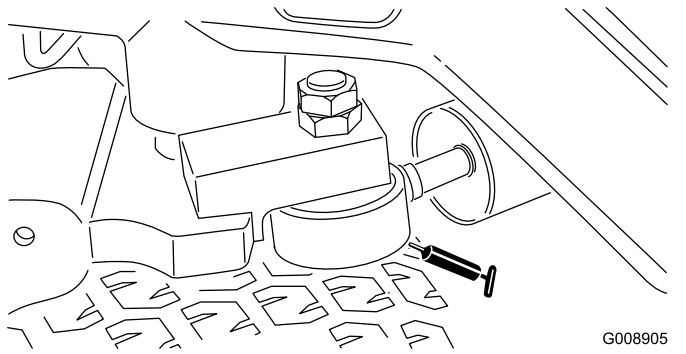

Figure 42
**Note:** If desired, an additional grease fitting may be installed in the other end of the steering cylinder. Remove the tire, install the fitting, grease the fitting, remove the fitting, and install the plug (Figure 42).